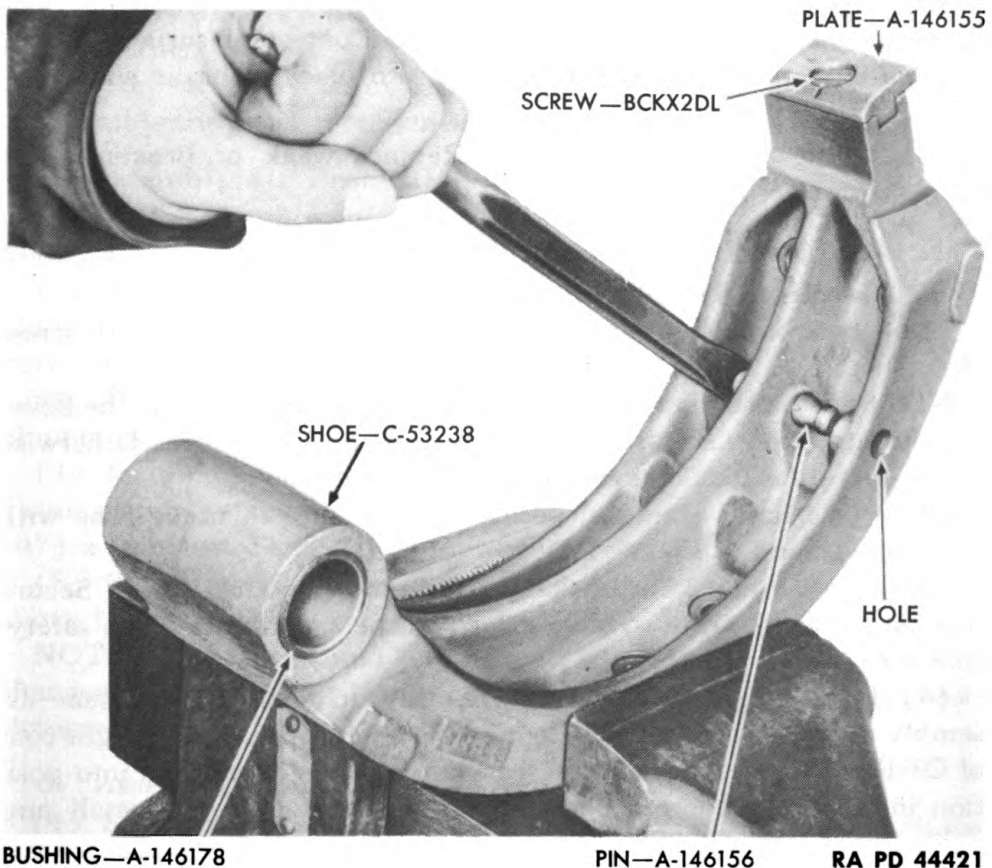

Figure 307—Removing Brake Spring Pin
- (1) Replace badly glazed or worn brake lining.
- (2) Replace a bent, loose, or broken brake spring pin. Pry old pin out with a pinch bar (fig. 307). Coat outer surface of new pin with tallow or lead and drive into place in brake shoe.